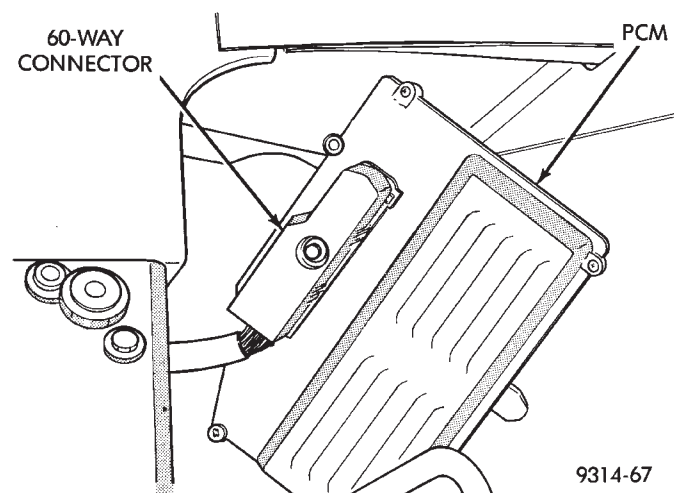

Fig. 59 PCM 60-Way Connector
- (3) Lift PCM up. Disconnect PCM 60-way connector (Fig. 59).
- (4) Remove PCM.